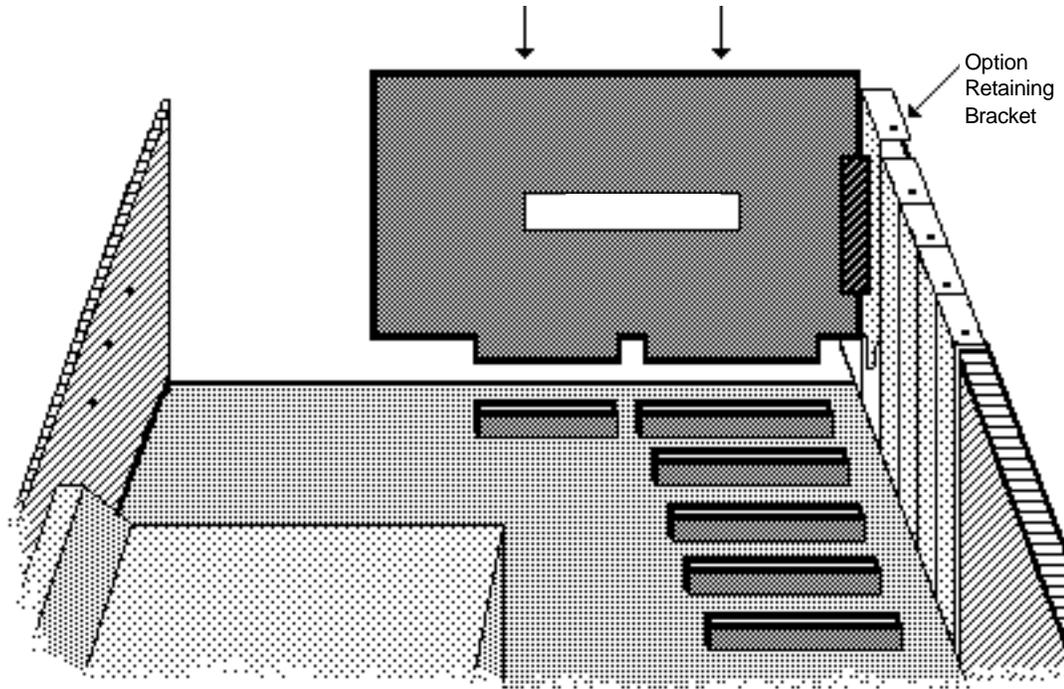

FIGURE 6
5. Pick up the DI-400 Series board and, holding it carefully without touching the gold-plated connectors, position the board so that the Option Retaining Bracket (ORB) at the rear of the board slides into the area previously occupied by the slot cover (refer to FIGURE 6). Note that since the gold-plated card edge connectors are inserted into the dual expansion slot, it is impossible to orient the board incorrectly.